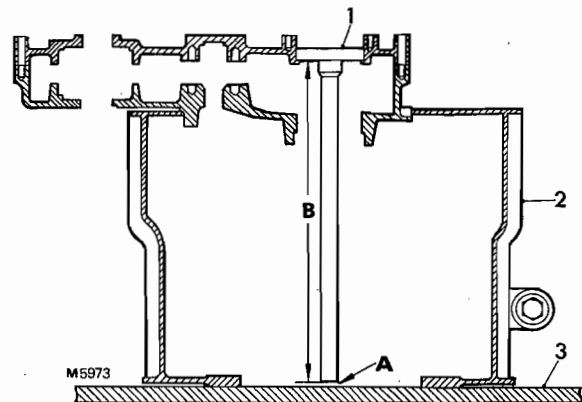

FIG. 16 CHECKING THE GEARCASE HEIGHT
3. Screw one leg of service tool LC128-2 into adaptor and position gauge as shown in Fig. 16.